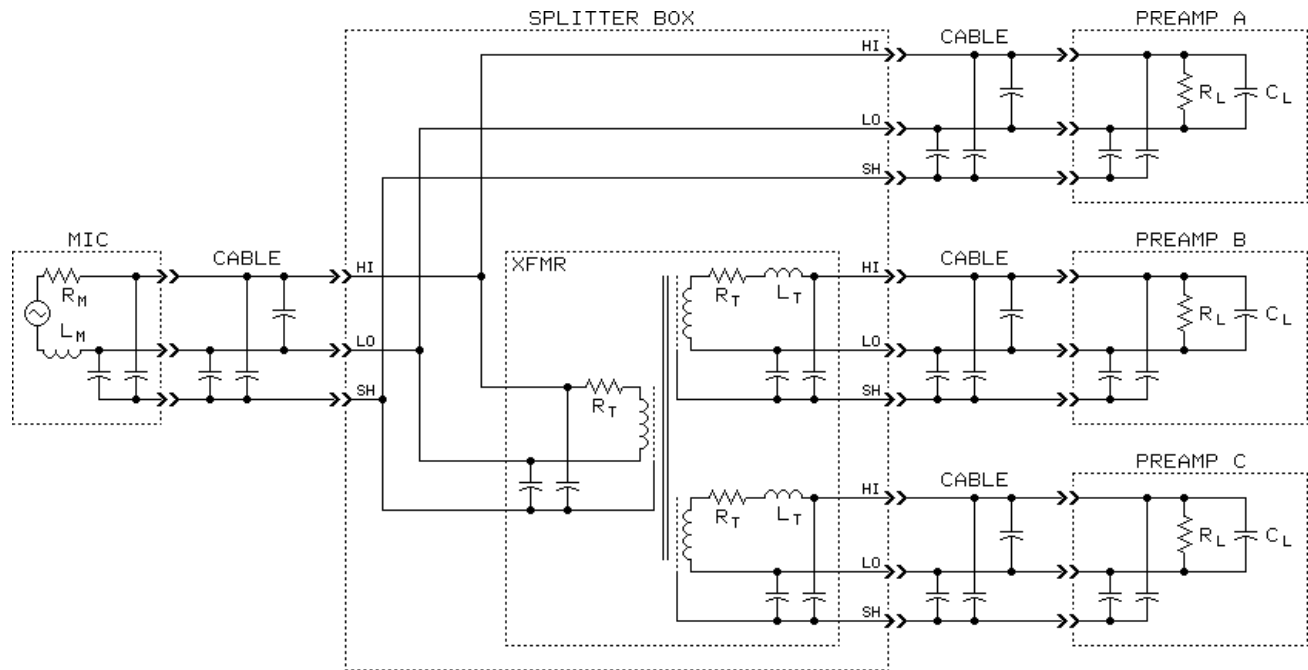

Figure 5 - Simplified Schematic for Common-Mode Rejection Purposes
1.3 Common-Mode Rejection Figure 5 shows the more complex equivalent circuit which takes into account the impedances, mostly capacitances, which must be balanced to achieve good CMR (Common-Mode Rejection) of ground noise.